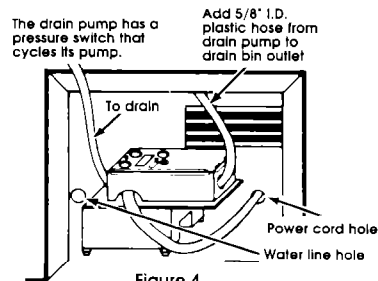

Figure 4
3. Remove the rubber drain hose and connect the bin drain directly to the pump using 5/8" I.D. plastic hose. (See Figure 4.)
4. Run pump drain hose to drain. (See Figure 4.)
5. Run the power supply cord from the pump through the hole in the rear of the ice maker. (See Figure 4.)